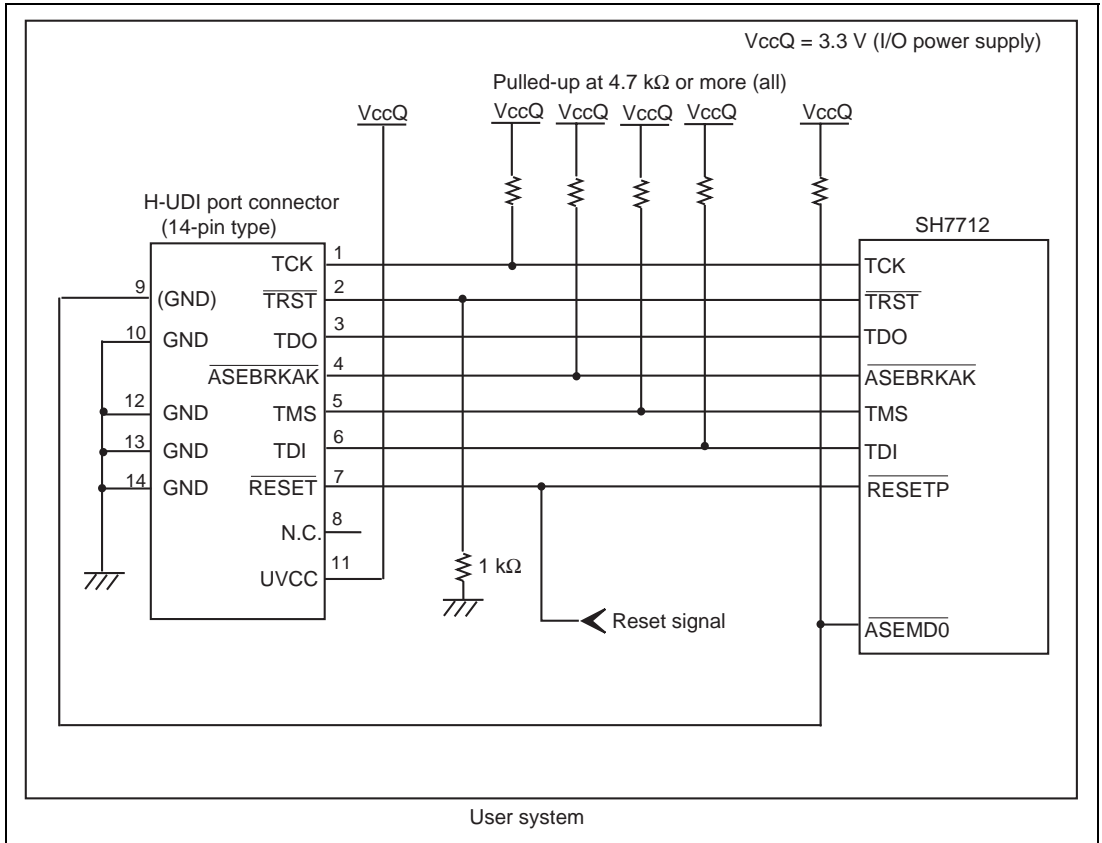
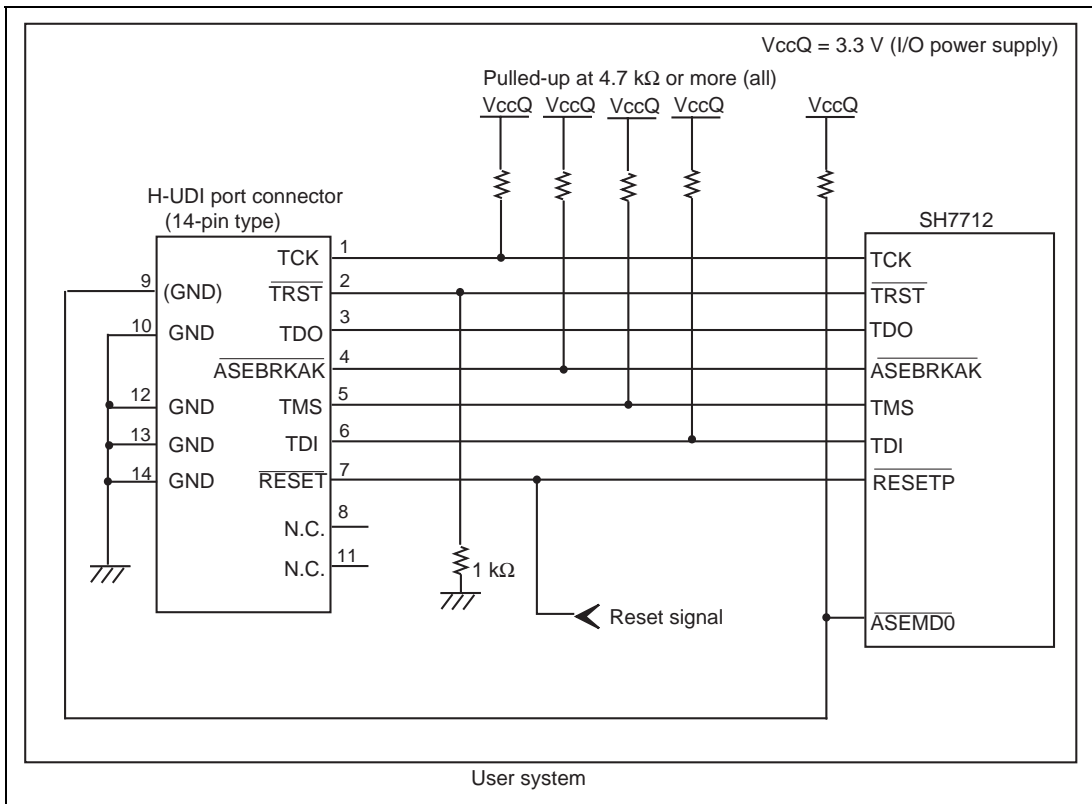

Figure 1.5 Recommended Circuit for Connection between the H-UDI Port Connector and MPU when the Emulator is in Use (14-Pin Type UVCC Connected)
Figure 1.6 Circuit for Connection between the H-UDI Port Connector and MPU when the Emulator is in Use (14-Pin Type UVCC Not Connected*)
Figure 1.5 shows a recommended circuit for connection between the H-UDI and AUD port connectors (14 pins) and the MPU when the emulator is in use. Figure 1.6 shows a circuit for connection when UVCC is not connected.
- (1) When the emulator is used: $\overline{\text{ASEMD0}} = 0$ (ASE mode)
- (2) When the emulator is not used: $\overline{\text{ASEMD0}} = 1$ (normal mode)Figures 1.5 and 1.6 show examples of circuits that allow the $\overline{\text{ASEMD0}}$ pin to be GND (0) whenever the emulator is connected by using the user system interface cable. When the $\overline{\text{ASEMD0}}$ pin is changed by switches, etc., ground pin 9. Do not connect this pin to the $\overline{\text{ASEMD0}}$ pin.
5. When the power supply of the user system is turned off, supplying VccQ of the user system to the UVCC pin reduces the leakage current from the emulator to the user system. A level shifter that is activated by the internal power supply or user power supply (changed by the switch) is installed in the interface circuit of the emulator. If the user power is supplied to the UVCC pin, the level shifter is not activated as long as no user power is supplied. When the power supply of the user system is turned off, no current flows from the user interface. The I/O voltage level of the user system interface can be the same as that of the VccQ. To operate the emulator with low voltage (lower than 3.3 V), the VccQ must be supplied to the UVCC pin. Make the emulator's switch settings so that the VccQ will be supplied (SW2 = 1 and SW3 = 1) (as shown in figure 1.5).
When the circuit is connected as shown in figure 1.5, the switches of the emulator are set as SW2 = 1 and SW3 = 1. For details, refer to section 3.8, Setting the DIP Switches, in the Debugger Part of the SuperH™ Family E10A-USB Emulator User's Manual.
When the circuit is connected as shown in figure 1.6, the switches of the emulator are set as SW2 = 0 and SW3 = 1. For details, refer to section 3.8, Setting the DIP Switches, in the Debugger Part of the SuperH™ Family E10A-USB Emulator User’s Manual.